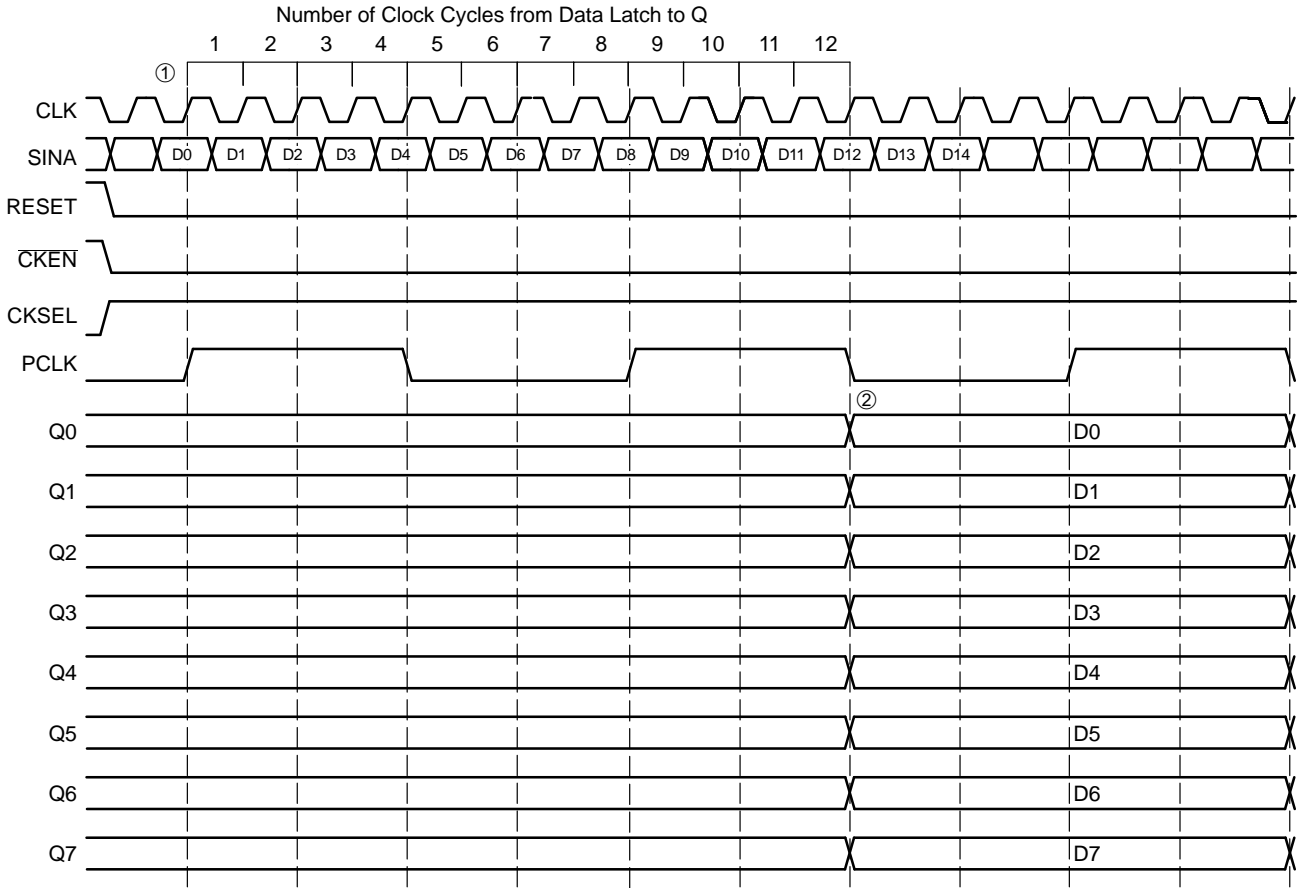

Figure 9. Timing Diagram A. 1:8 Serial to Parallel Conversion with CKSEL HIGH
Similarly, for CKSEL HIGH operation, the data is latched only on the rising edge of the clock and the time from when the serial data is latched① to when the data is seen on the parallel output② is 12 clock cycles (see Figure 9).